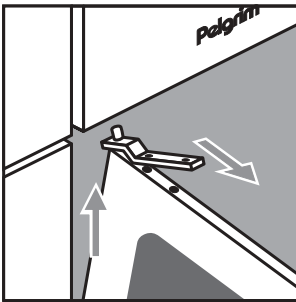

fig. 8a
- Remove the upper hinge by removing the two screws. Lift the door from the lower hinge (see fig. 8a).